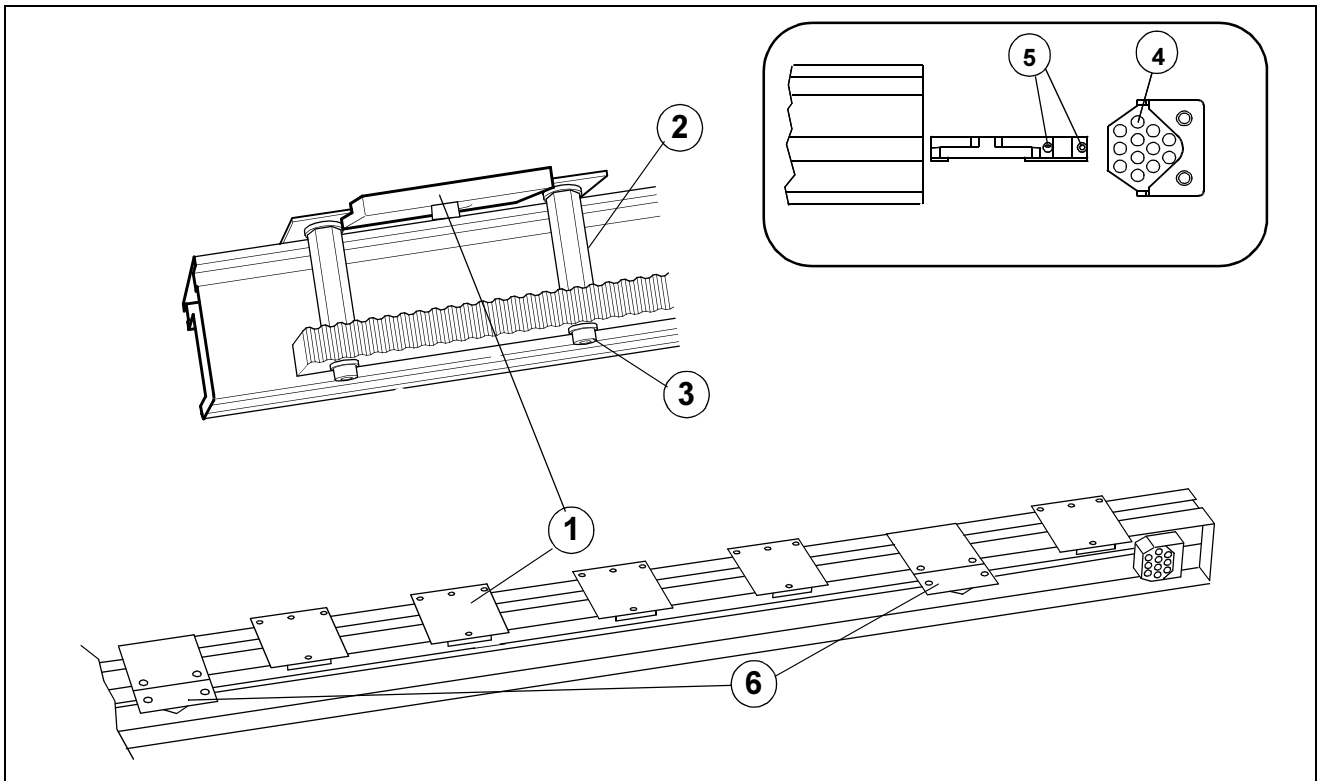

Fig. 1
- Clamp connection of the switch strike plates (6/Fig.1) for the S42/43 safety limit switches (M4 Allen screws): **2 Nm**
- End stops and rubber bumpers (4/Fig.1)
- M6 set screws (5/Fig.1) for the stop detents, longitudinal (SID), **10 Nm**